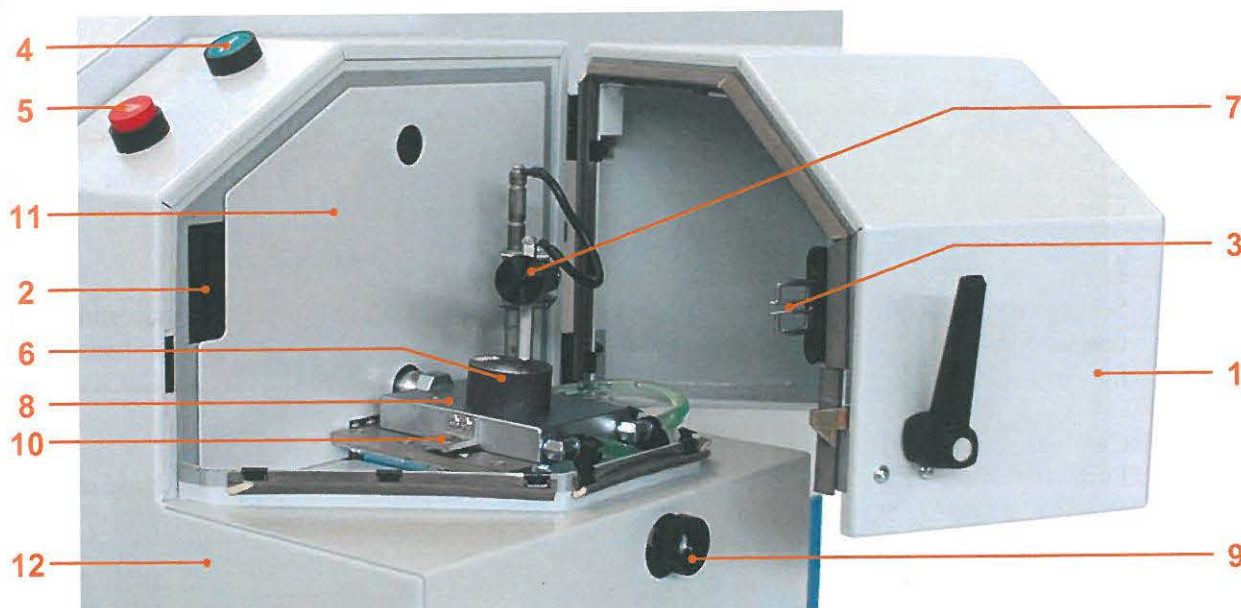
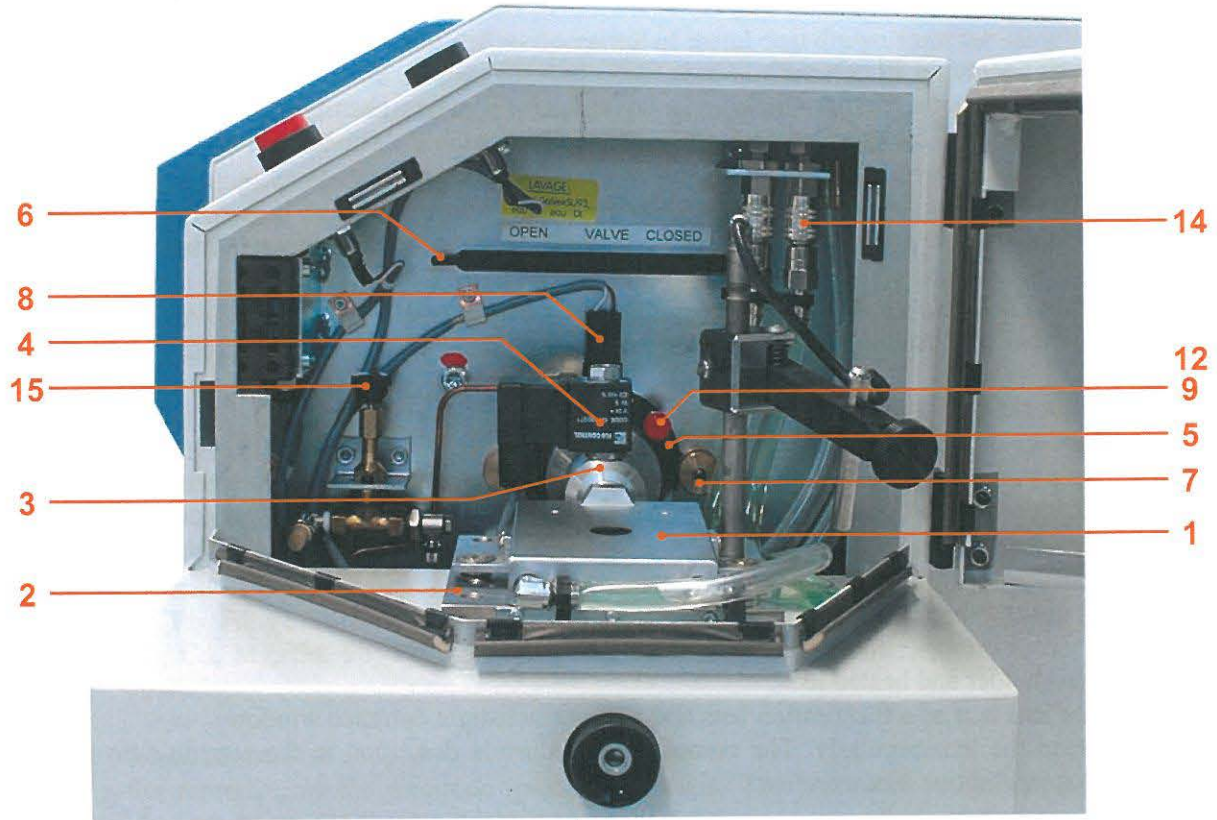
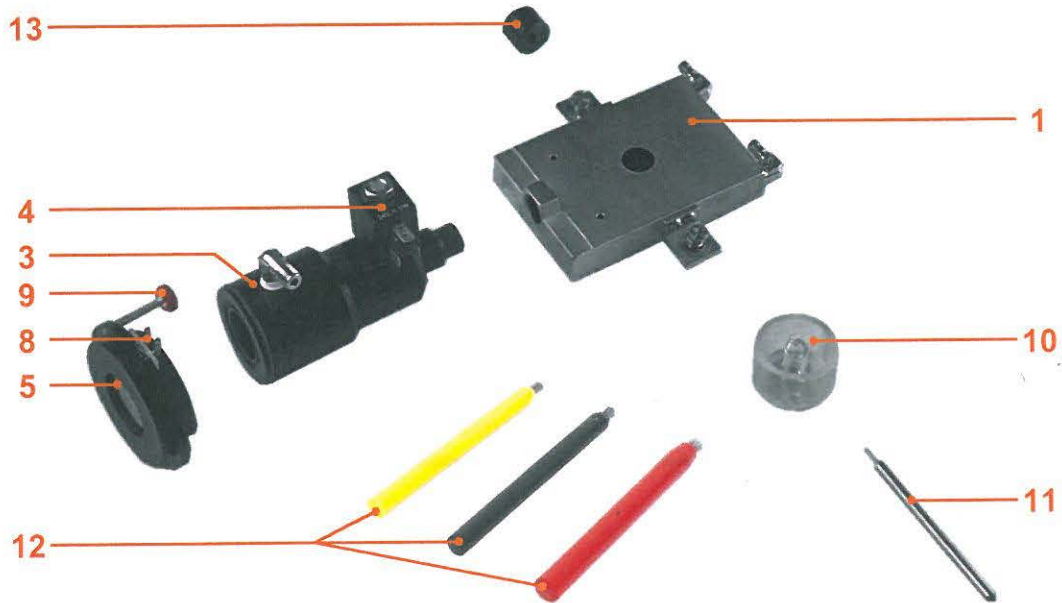

Figure 2.7
Figure 2.8
Figure 2.9
- 12 D : Stand door (F!). See also key figure 2.7.
One of these scales gives the absolute value (real) of the vacuum inside the spectrometer; it will be used to check the value of this vacuum and to adjust the air leak by micro-valve (figure 2.8, pos. 15) if necessary.
The figure 2.7 shows the stand with a sample in position ready for analysis. The figure 2.8 shows the stand open for cleaning or maintenance purpose. The figure 2.9 shows several separate parts subject to maintenance or cleaning.
Key to figure 2.7:
- 9 D : Electrode's (figure 2.9, pos. 11) clamping screw.
U : Secures a reproducible position of the electrode in relation to the sample. The adjustment of the position is to be made with a gauge (figure 2.9, pos. 13). It is useless and even harmful to tighten the electrode excessively.
Key to figures 2.8 and 2.9: